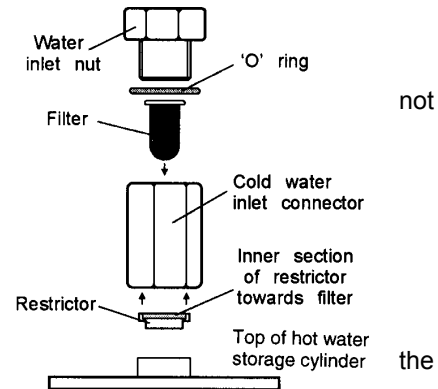

Fig. 21
9.25 MAINS WATER INLET FILTER & FLOW RESTRICTOR (see Fig. 21)